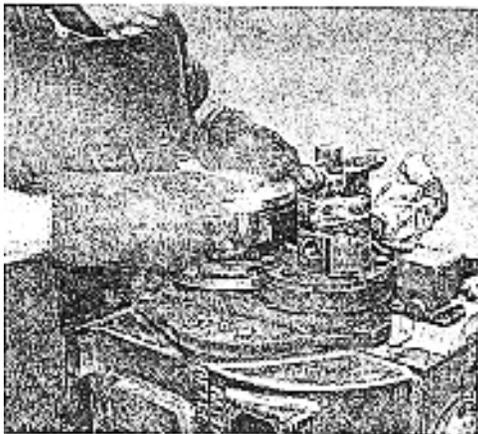

Figure 49. Installing Hot Output Coupling on Shaft.
8. Install heated output coupling on output shaft. Make sure coupling seats firmly against bearing. If it does not a soft hammer should be used while coupling is hot. See fig. 49.